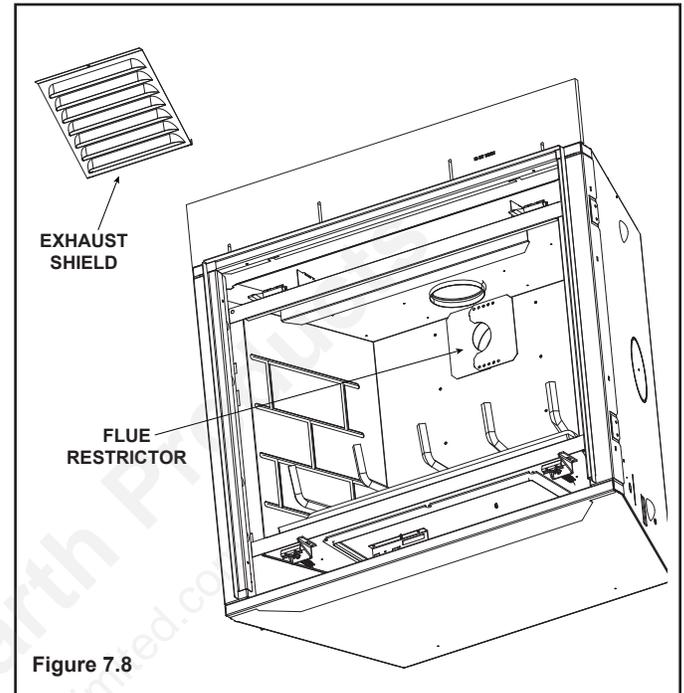
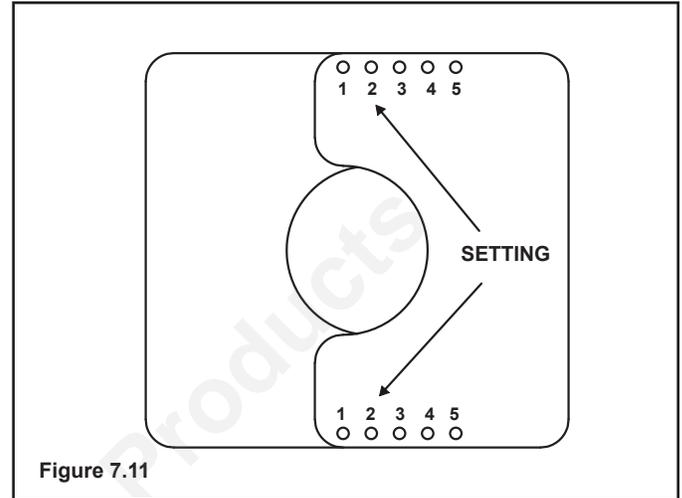

Figure 7.8
Figure 7.11
1. Remove exhaust shield using a 1/4 inch nut driver by removing the four screws securing it in place (see Figure 7.8).
- Center the Flue Restrictor on vent and secure in place by using two self-tapping screws (see Figure 7.8 and Figure 7.11).